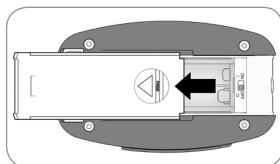

Fig. 2
2. Press down on the arrow and slide the battery compartment door completely off (Fig. 2). Set battery door aside.